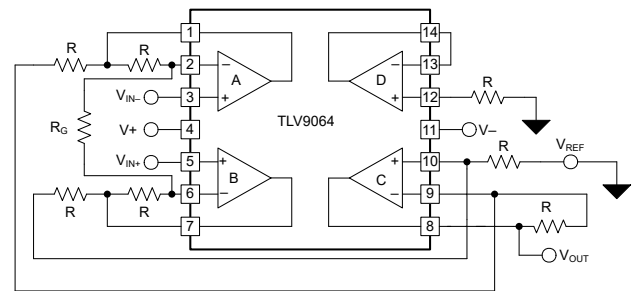

Figure 1. A discrete dual-supply IA using a quad op amp.
Figure 1 is a simplified schematic of a discrete, dual-supply IA using the Texas Instruments (TI) TLV9064 quad op-amp circuit. In this circuit, three of the four amplifier channels (A, B and C) are connected as a traditional three-op-amp IA. The reference voltage (V_{REF}) connects to ground. With no use for the fourth channel, D, it is therefore connected as a buffer to mid-supply (ground) through a resistor for transient robustness. All resistors labeled “R” have a value of 10 k Ω ; R_G sets the differential gain. The differential input voltage is $V_{IN+} - V_{IN-}$ and the output voltage is V_{OUT} . Some components, such as the load resistor (10 k Ω) and decoupling capacitors, are not shown. Drawing all circuits from a package perspective illustrates the number of external discrete components.